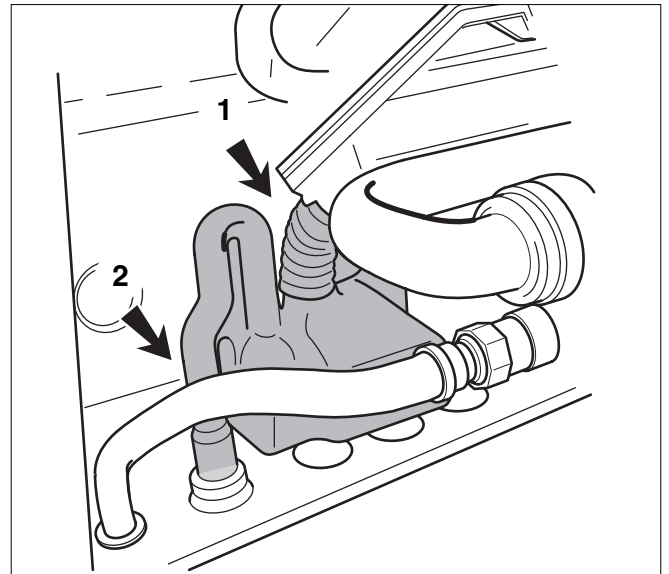

Fig. 113 Disconnecting the condensate trap connection
- Pull the condensate trap from the condensate plate (fig. 113, pos. 1).
- Remove the condensate trap (fig. 113, pos. 2).